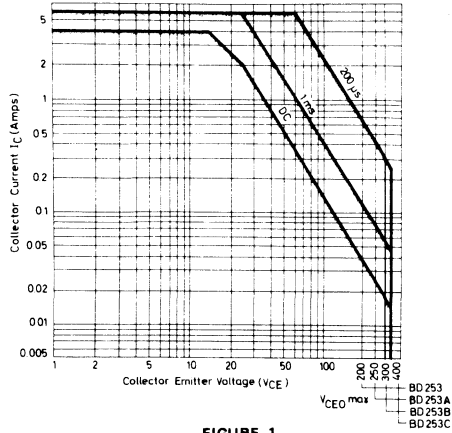
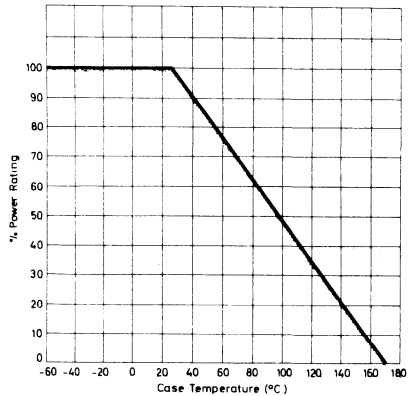

FIGURE 1
FIGURE 3
The graph on Figure 1 is for single non-repetitive rectangular power pulses, with a case temperature held at 25 C. For operation at case temperatures above 25 C derate the value of current indicated in Figure 1 by the power derating factor, determined from Figure 3. For repetitive pulse operation the following procedure should be followed. Work out the energy of the power pulse by graphical integration and determine the equivalent rectangular power pulse, using the pulse duration and the peak voltage applied. Ensure that the equivalent power pulse, as determined, is within the safe operating area, applying a derating factor for the case temperature as indicated above. Also calculate the average power dissipation and ensure that it falls within the steady state (DC) condition, having first derated the steady state condition for the effect of case temperature.